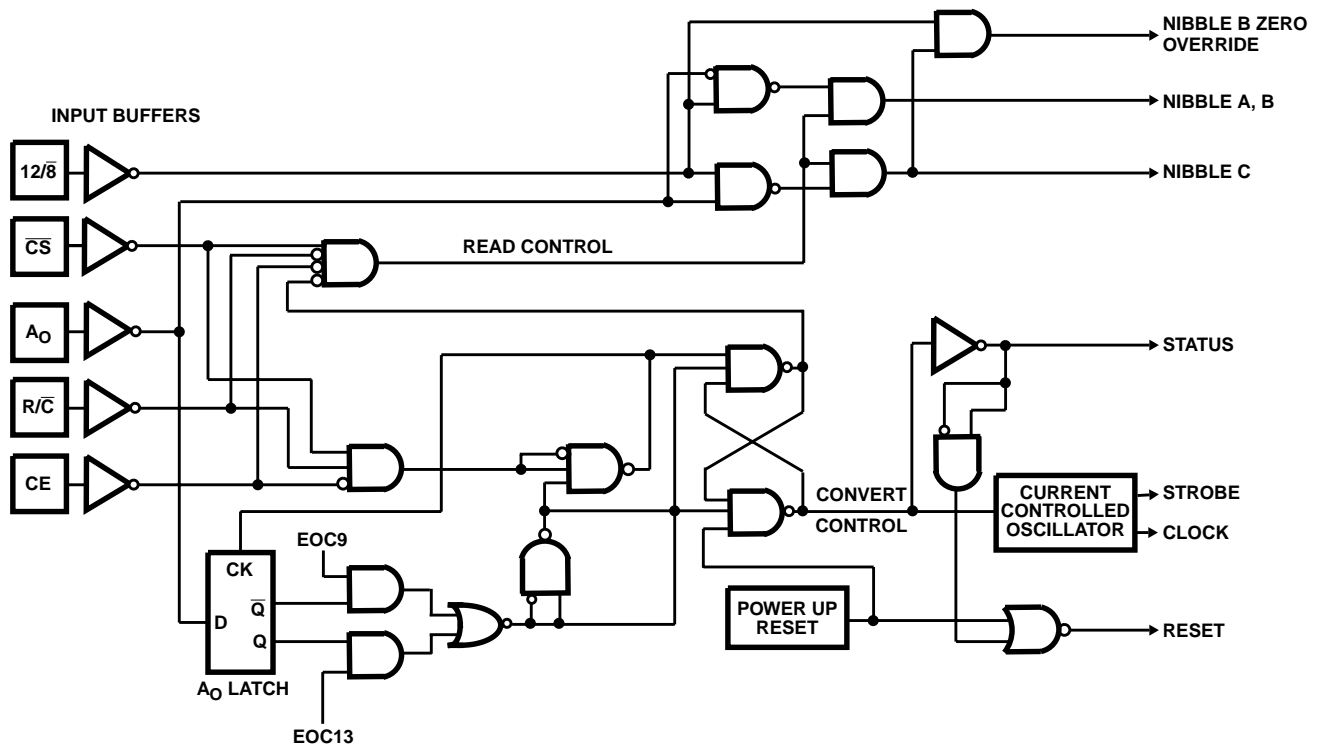

FIGURE 7. HI-774 CONTROL LOGIC
The HI-X74(A) includes logic for direct interface to most microprocessor systems. The processor may take full control of each conversion, or the converter may operate in the “stand-alone” mode, controlled only by the R/C input. Full control consists of selecting an 8-bit or 12-bit conversion cycle, initiating the conversion, and reading the output data when ready—choosing either 12 bits at once or 8 followed by 4, in a left-justified format. The five control inputs are all TTL/CMOS-compatible: (12/8, CS, AO, R/C and CE). Table 1 illustrates the use of these inputs in controlling the converter’s operations. Also, a simplified schematic of the internal control logic is shown in Figure 7.